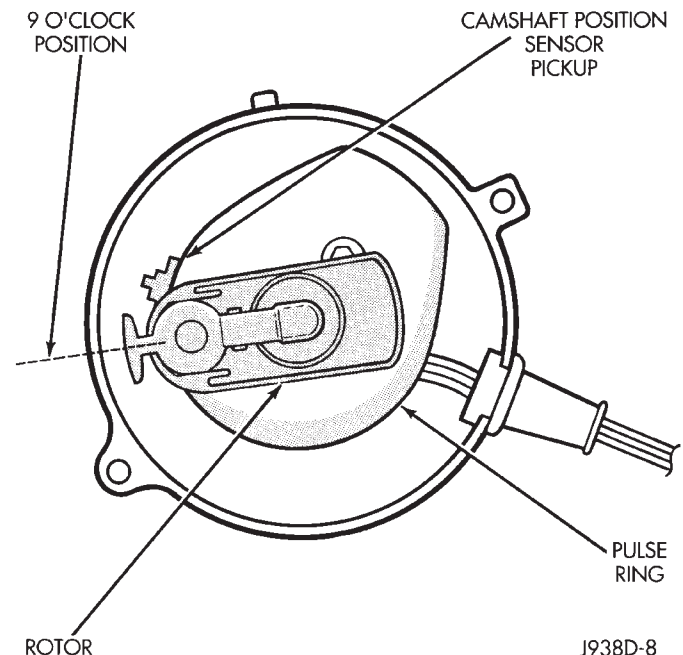

Fig. 1 Pulse Ring/Rotor Position—4.0L Engine
(1) Connect the positive (+) voltmeter lead into the sensor output wire. This is at done the distributor wire harness connector. For wire identification, refer to Group 8W, Wiring Diagrams.
(2) Connect the negative (-) voltmeter lead into the ground wire. For wire identification, refer to Group 8W, Wiring Diagrams.
(3) Set the voltmeter to the 15 Volt DC scale.
4.0L Engines: Remove distributor cap. Rotate (crank) engine with starter until pulse ring (Fig. 1) enters the magnetic pickup on camshaft position sensor. Distributor rotor should be pointed in 9 o'clock position. The movable pulse ring should now be within the sensor pickup.